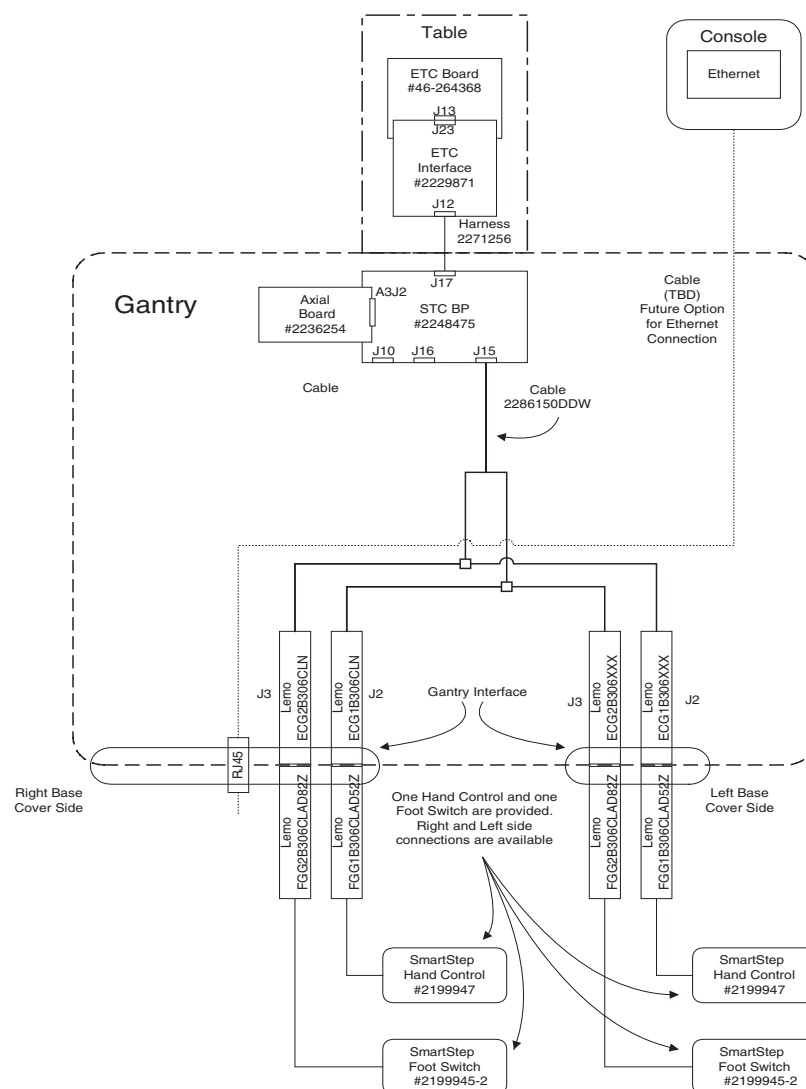

Figure 2-1 SmartStep Interconnect and Functional Drawing
The information in this Chapter applies to LightSpeed 2.X (Plus), LightSpeed 3.X (Ultra) and LightSpeed 4.X (16) CT systems, as well as Discovery ST (w/ 16/8/4-Slice CT Gantries) PET systems. The SmartStep hardware is shipped ready for immediate installation. The following installation procedure describes how to install that hardware on the gantry. See Figure 2-1 for a general layout of cabling and connections. Refer to Table 2-1, on page 24 for a listing of the parts in the kit.